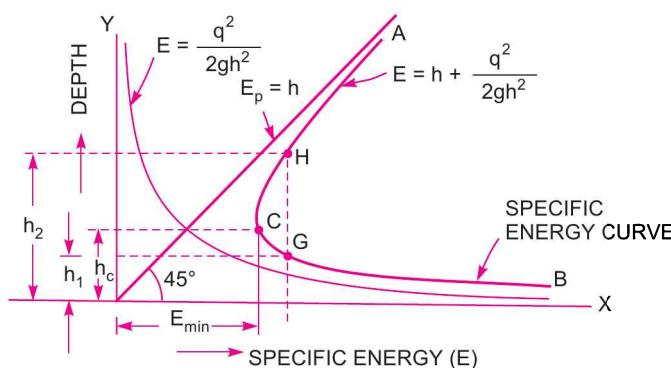

Fig. 16.26 Specific energy curve.
shown in Fig. 16.26. Then drawing another curve for kinetic energy (*i.e.*,  $E_k = \frac{q^2}{2gh^2}$  or  $E_k = \frac{K}{h^2}$ ,
where  $K = \frac{q^2}{2g} = \text{constant}$ ) which will be a parabola as shown in Fig. 16.26. By combining these two
curves, we can obtain the specific energy curve. In Fig. 16.26, curve  $ACB$  denotes the specific energy curve.
**16.7.1 Critical Depth ( $h_c$ ).** Critical depth is defined as that depth of flow of water at which the specific energy is minimum. This is denoted by ' $h_c$ '. In Fig. 16.26, curve  $ACB$  is a specific energy curve and point  $C$  corresponds to the minimum specific energy. The depth of flow of water at  $C$  is known as critical depth. The mathematical expression for critical depth is obtained by differentiating the specific energy equation (16.22) with respect to depth of flow and equating the same to zero.
**16.7.7 Alternate Depths.** In the specific energy curve shown in Fig. 16.26, the point  $C$  corresponds to the minimum specific energy and the depth of flow at  $C$  is called critical depth. For any other value of the specific energy, there are two depths, one greater than the critical depth and other smaller than the critical depth. These two depths for a given specific energy are called the alternate depths. These depths are shown as  $h_1$  and  $h_2$  in Fig. 16.26. Or the depths corresponding to points  $G$  and  $H$  in Fig. 16.26 are called alternate depths.